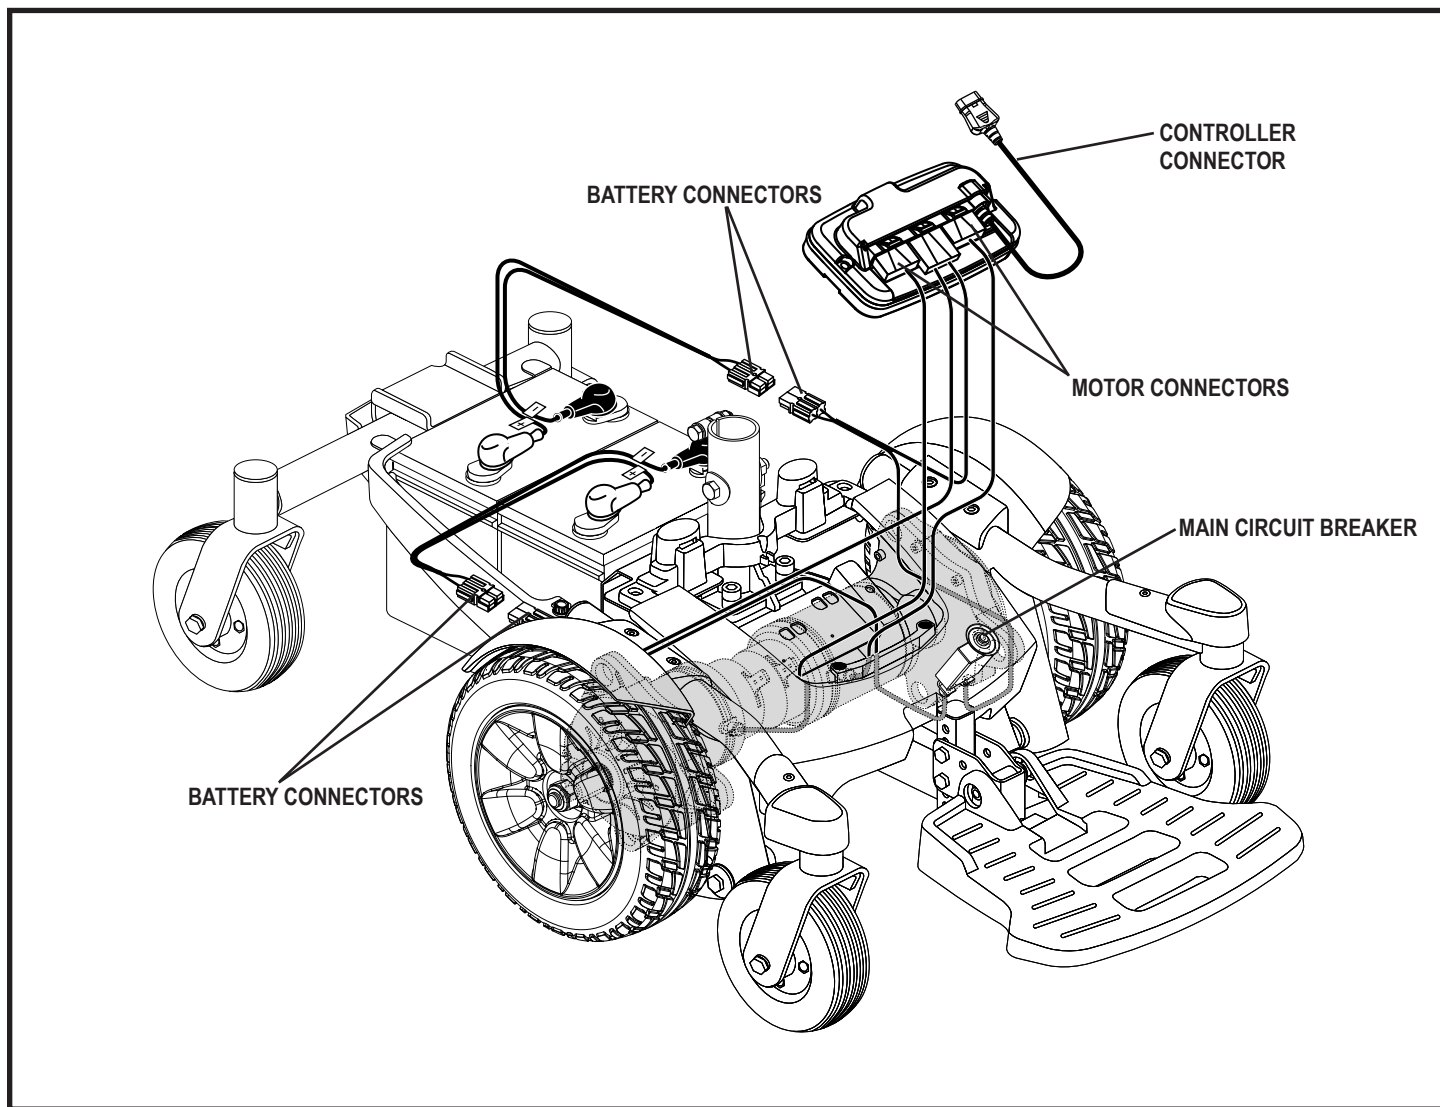

Figure 3. Jazzy® Select 6 Electrical Components
4. Plug the controller harness into the connector on the power base. See figure 3.